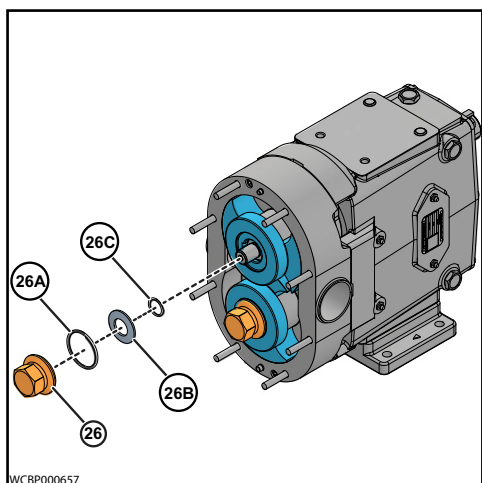

Figure 35 - Remove Rotor Nut
3. Using only your hands, remove the Rotor nuts (26), Belleville-Style Washers (26B), Rotor nut O-rings (26A) and Rotor hub O-rings (26C), as shown in Figure 35.